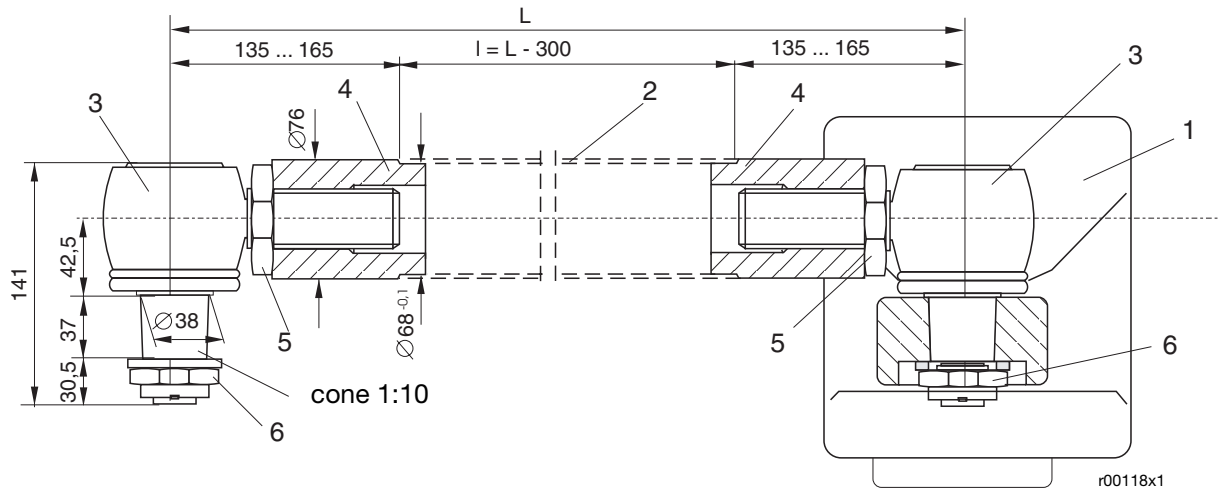

Fig. 4: Lever RHDE8000
- Refer to figure 4 and 5 for the required length of the link tube.
- Drill a cone bore into the valve lever for mounting the second ball-and-socket joint, as shown in figure 4 and 5.